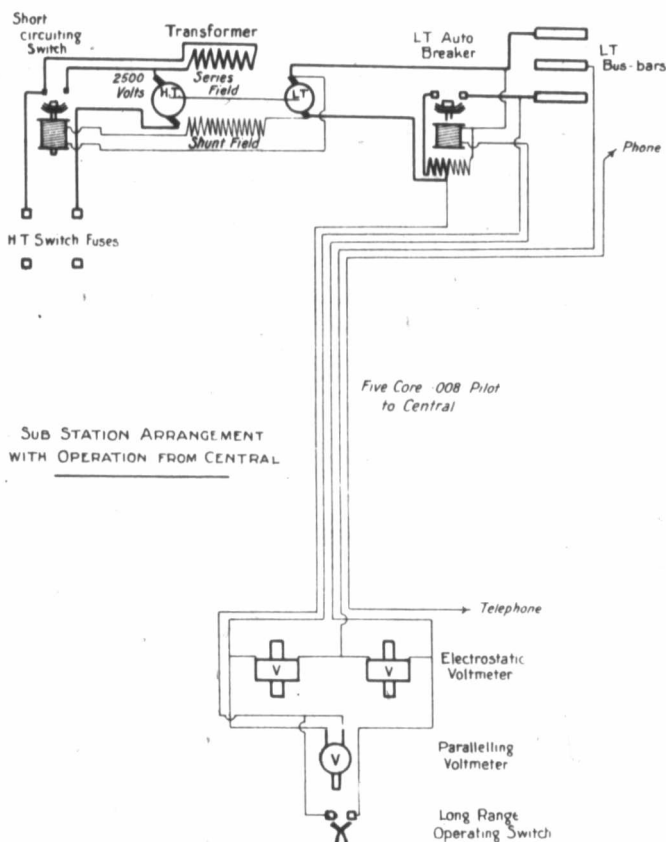

Fig. 2
*Transformers.*—The rotary transformers (Fig. 2) are two-pole machines of overtape design, with double wound armatures running
The regulation of these stations is done from the central by means of the line resistance, and for starting up, etc., a five core .008 armoured pilot cable is run back from each. (Fig. 3, sub-station arrangement.) Coming to the method of connection, it will be seen from Fig. 2 that the actuating solenoid of the L.T. auto is connected from the opposite pole of the transformer and through to the "firing switch" at the central. From the firing switch another line is run back to the transformer side of the auto. Being on this side is important, as, were it on the other side, the switch could be operated whether the machine was running or not. As it is, when the machine is shut down there is no potential across the firing switch. This same line also serves for the paralleling voltmeter, whilst for the other side of this meter another line is taken from the busbar side of the auto. Across these lines the electrostatic pilot voltmeters are connected, the fourth line in the cable serving for their neutral and the fifth for the telephone.